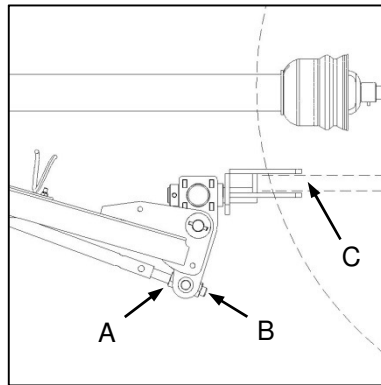

Fig. 10
- ✔ Release the front hitch tie-rod locknut (Fig. 10-A) and turn the adjusting nut (Fig. 10-B) to set the hitch clevis angle such that it is parallel to the tractor towing hitch (Fig. 10-C).
- ✔ Ontspan die voorste spoorstangsluitmoer los (Fig. 10-A) en draai die verstelmoer (Fig. 10-B) om die vurkhaakhoek so te stel dat dit parallel met die trekker se sleepaak is (Fig. 10-C).